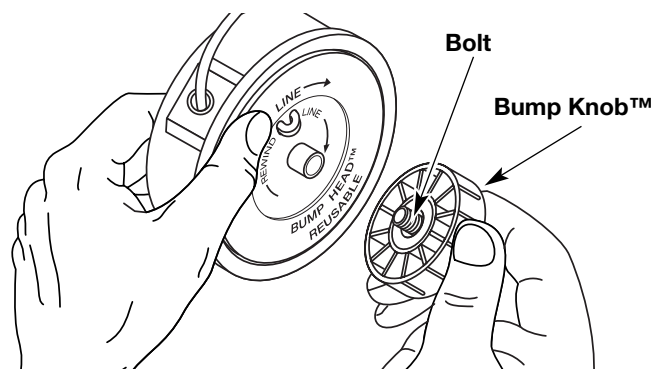

Fig. 16
1. Hold the outer spool with one hand and unscrew the Bump Knob™ counterclockwise (Fig. 16). Inspect the bolt inside the Bump Knob to make sure it moves freely. Replace the Bump Knob if damaged.
- Hold the outer spool with one hand and unscrew the bump knob counterclockwise (Fig. 16). Inspect the bolt inside the bump knob to make sure it moves freely. Replace the bump knob if damaged.